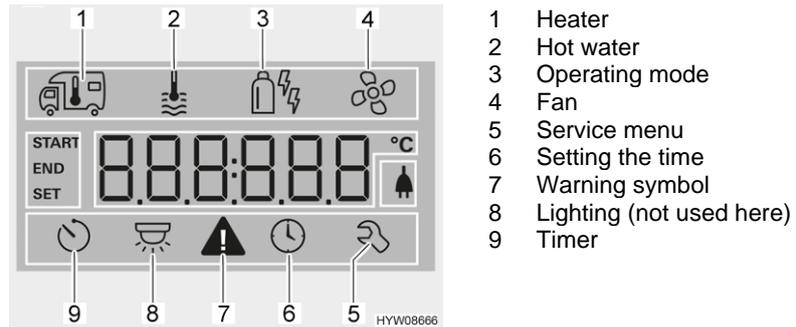

Fig. 154 Display (operating unit)
- Turn rotary push button (Fig. 153,6) until the heater menu symbol (Fig. 154,1) flashes.
- Turn rotary push button (Fig. 153,6) until the hot water menu symbol (Fig. 154,2) flashes.
- Turn rotary push button (Fig. 153,6) until the menu symbol operating mode (Fig. 154,3) flashes.
- Turn rotary push button (Fig. 153,6) until the fan menu symbol (Fig. 154,4) flashes.
- Turn rotary push button (Fig. 153,6) until the timer menu symbol (Fig. 154,9) flashes.
- Press rotary push button. The timer is activated. The timer symbol (Fig. 154,9) flashes when the timer is programmed and active.
The warning symbol (Fig. 154,7) flashes in the event of a warning. The heater continues to operate. In the event of only a temporary fault, the warning symbol goes out automatically.